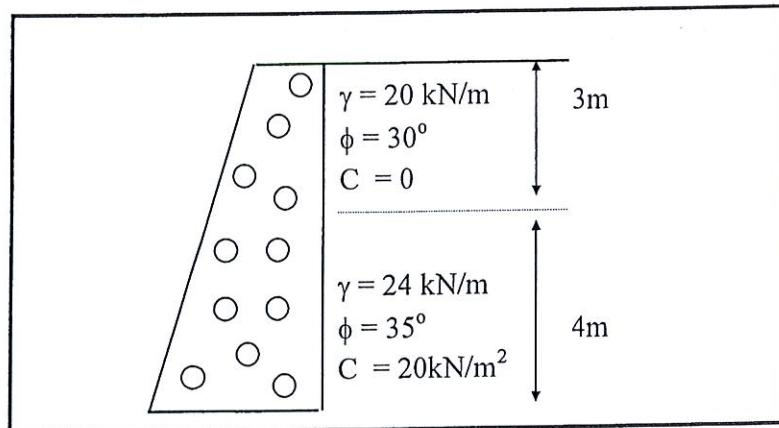

Figure 2b / Rajah 2b
- (b) A retaining wall built during the excavation carried out as shown in **Figure 2b** to bear two soil layers behind it. Regardless of passive pressure in front of the retaining wall.